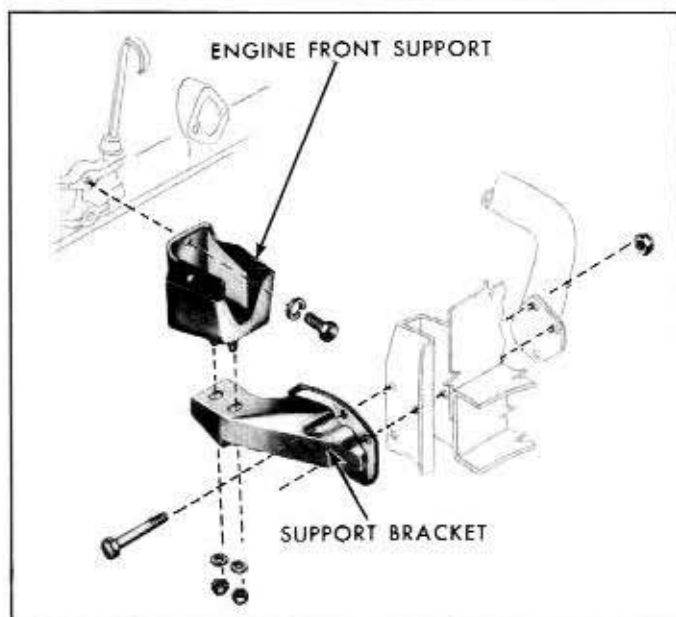

Fig. 6A-12—Engine Front Support—(60C-5611)
- a. Remove the engine support to support bracket retaining nuts. See figure 6A-12. The nuts must be removed from both supports so that the engine can be raised.